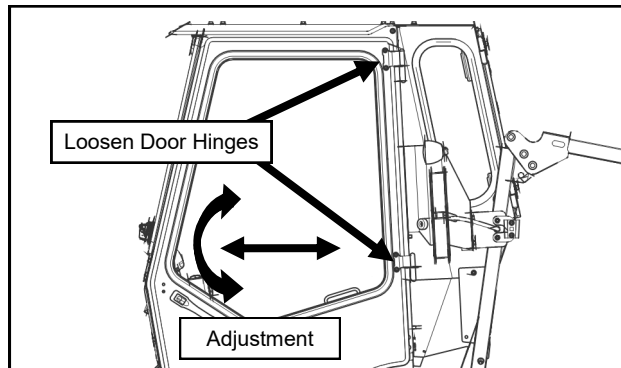

Fig. 27.2a (Door Hinge Adjustment)
- 27.2** Loosen the door hinge bracket to allow for adjustment later. Hang the left door on the hinges. While lifting up and forward on the door handle, line up the door latch with the striker pin and carefully attempt to latch. You should be able to hear 2 clicks as you slowly engage the latch on the pin. If the latch is too far forward or back to latch on the pin, adjust as shown in figures 27.2a and b. Then retighten and latch.